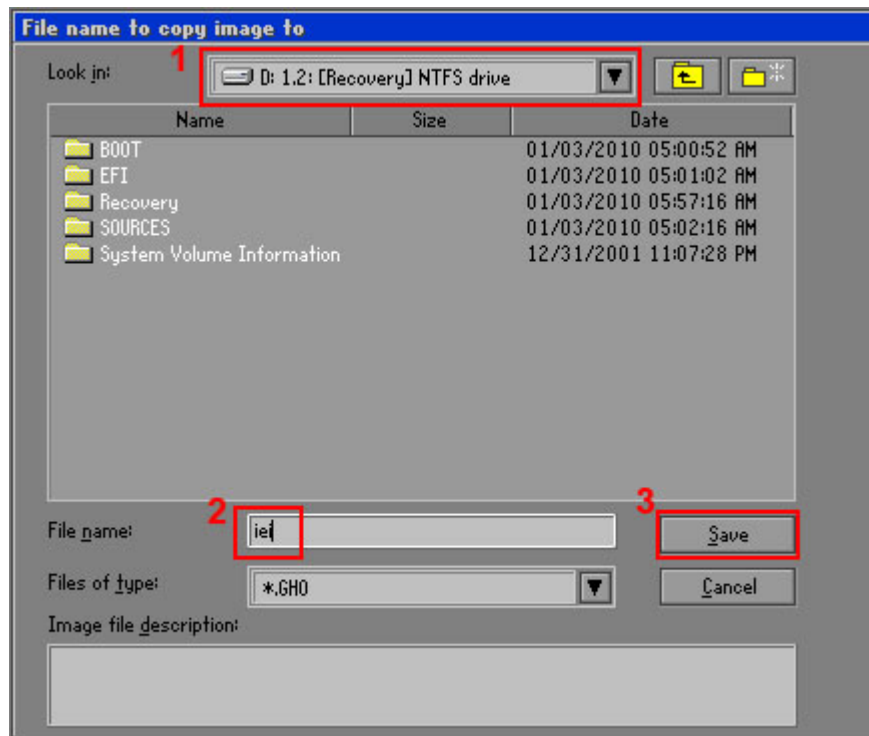

Figure D-16: File Name to Copy Image to
Step 7: Select 1.2: [Recovery] NTFS drive and enter a file name called **iei** (Figure D-16). Click **Save**. The factory default image will then be saved in the selected recovery drive and named IEI.GHO.